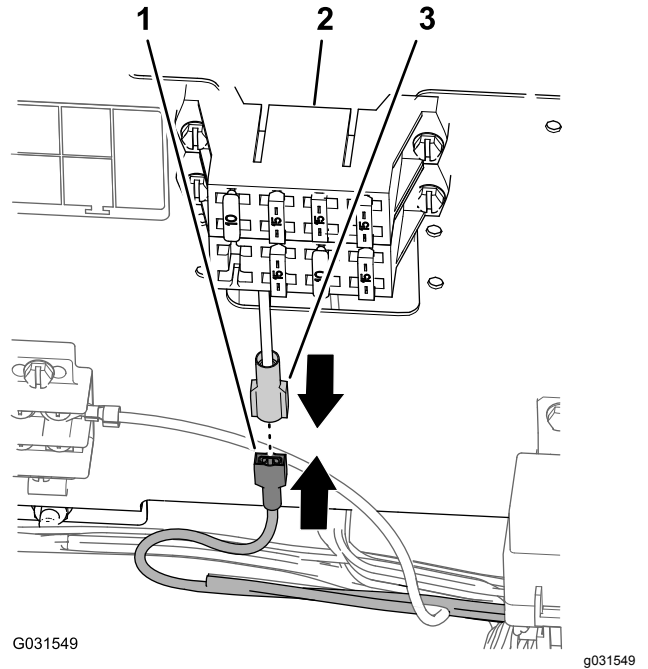

Figure 203
1. For a machine with the bladed-attachment connector at the fuse block for the machine, connect the blade connector of the wire harness for the finishing kit to the socket connector of the fuse block for the machine (Figure 203).